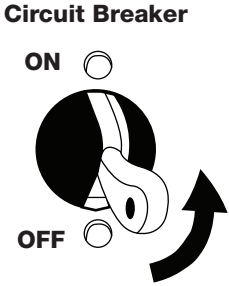

FIGURE 9
5.2.3 For a cold start, the choke will be in the CLOSED position. To OPEN, pull on the choke lever ring firmly position. **FIGURE 9.**